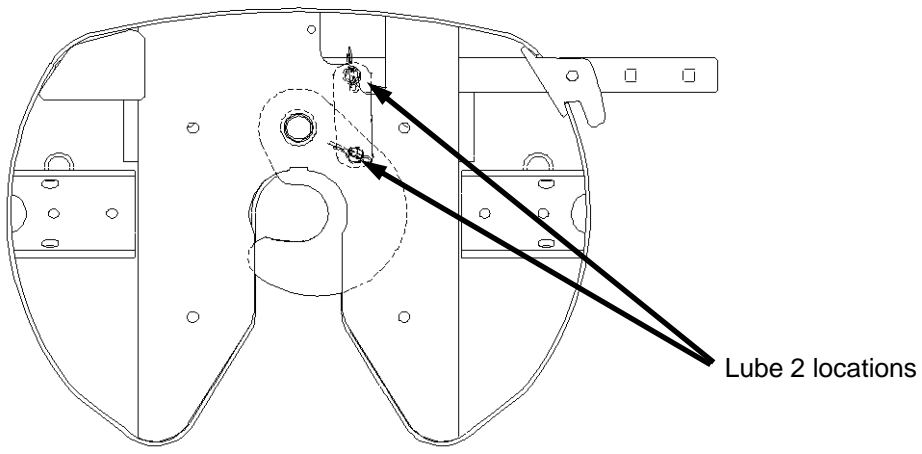

Figure 15
11. Lube pins (2) shown in **Figure 15** with lithium grease prior to installation/operation.